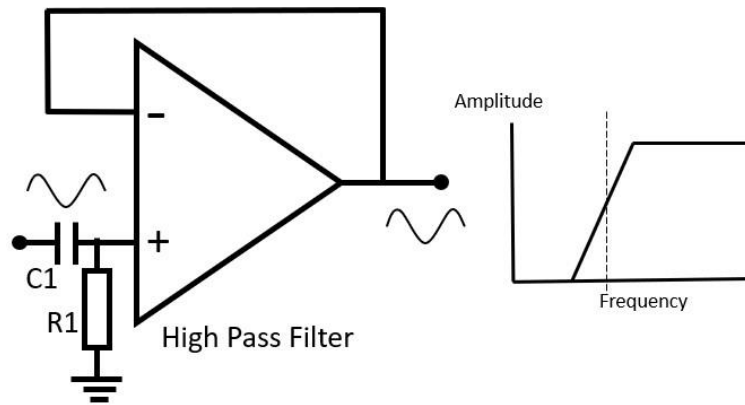

Figure 9: High Pass Filter.
8. **The High pass filter** is a unity gain amplifier passing the frequencies higher than that determined by  $R_1$  and  $C_1$  (Figure 9).